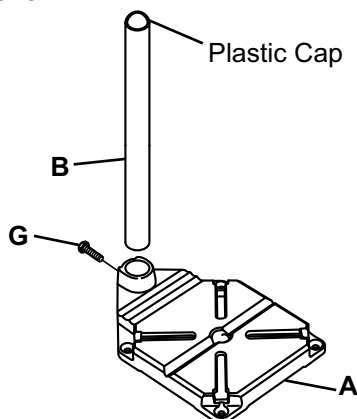

Figure 1
1. Secure base (A) to a solid object such as a workbench or a clamped-down board. Four holes are provided in the base for mounting (hardware not included).
2. Insert post (B) into base. Make sure plastic cap is on top. Install and tighten base bolt (G) securely. See Figure 1.